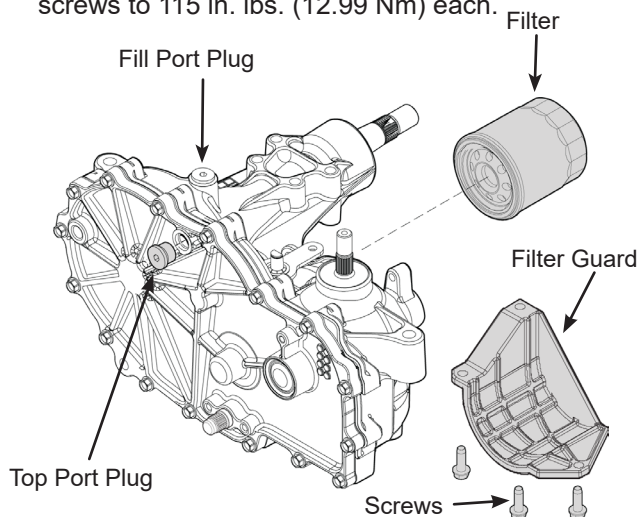
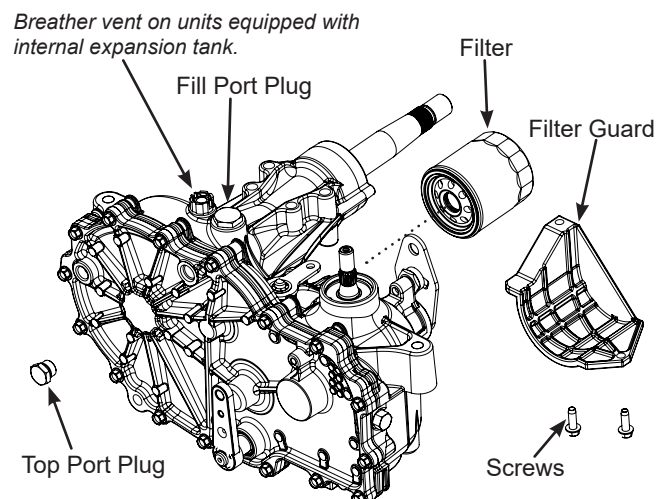

Figure 5, Unit Without Internal Expansion Tank
Figure 6, Unit With Internal Expansion Tank
Certain situations may require additional fluid to be added or even replaced. Refer to page 10 and figure 5 for the proper fill port location.
1. Remove the three 1/4" filter guard screws and the filter guard as shown in figure 5 or the two 1/4" filter guard screws and filter guard as shown in figure 6. Clean any loose debris from around the perimeter of the filter. See figures 5 and 6.
8. Remove the top port plug (figure 6) from the left side and right side transaxles prior to filling with oil. This will allow the transaxles to vent during oil fill.
**Note: For units that do not have an external expansion tank remove the fill port plug on the top of the housing (figure 6).**
10. Fill with 20W50 motor oil until oil just appears at the bottom of each transaxle's top port (approximately 2 qts. per transaxle, 4 qts. total). Install the top port plug into each transaxle as the oil level reaches this port. See Figure 6.
**Note: For units that do not have an external expansion tank replace the fill port plug on the top of the housing (figure 6), torque to 120 in. lbs. and proceed to the purge procedure on page 12.**